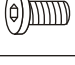

*Figure 2*
**Step 3: Build the leg assembly.** Attach the legs to the leg connector bracket by using the 1/4"x35 mm bolts as shown in **Figure 2**. Add a washer to each bolt. Guide these bolts through the holes in the leg connector bracket, and into the fixed nuts already in place in the legs. Do not over-tighten. Only 3-4 turns to ensure the leg stays in position. Repeat this procedure on the other three legs.